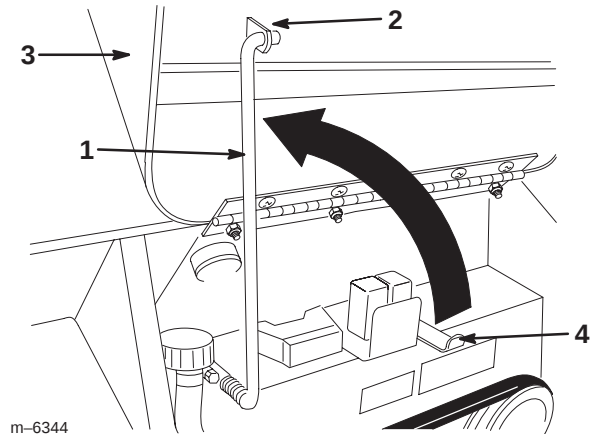

Figure 19
3. If you have a self-locking hood, it will lock open; otherwise, swing the prop rod up and secure it in the bracket on the hood (Fig. 19).
1. Pull the prop rod out of the bracket on the hood and lower it into its holder (Fig. 19).